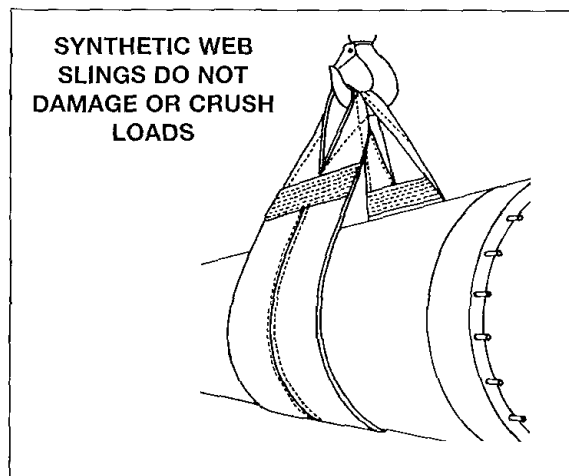

Figure 29
- Their relative softness and width create much less tendency to mar or scratch finely machined, highly polished, or painted surfaces and less tendency to crush fragile objects than fibre rope, wire rope, or chain slings (Figure 29).